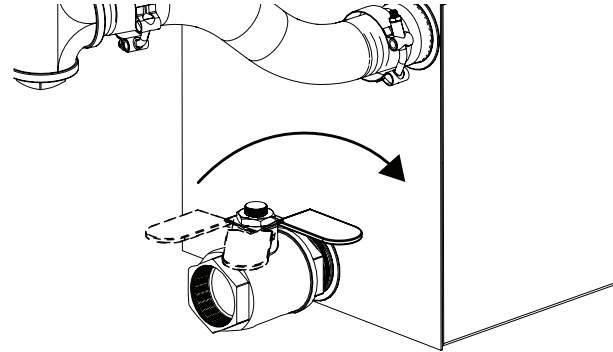

Figure 56
5. Turn the valve lever counterclockwise 1/4 turn to close the valve (Figure 56).